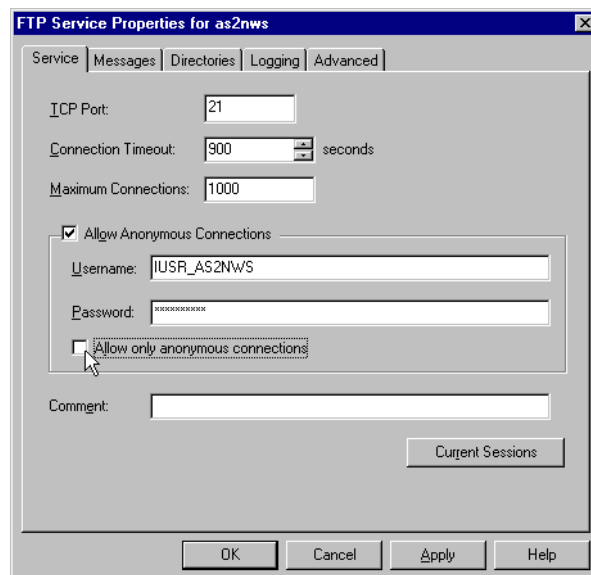

Figure 49. Configuring FTP Service Properties on the Deployment Server
- e. On the display similar to the example in Figure 49, select **Allow Anonymous Connection**. Deselect **Allow only anonymous connections**. Click **OK**.